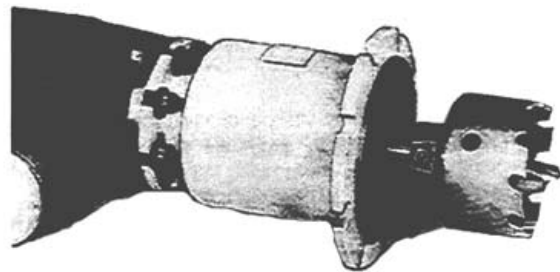

FIGURE 44
5. Assemble shell-cutter and cutter hub. Insert the shank of pilot-drill into the socket in the boring bar. Slide cutter hub and shell cutter over the end of the boring bar. Align holes in the cutter hub, boring bar and pilot drill and attach to boring bar with hub retaining bolt. **Figure 44.** Coat shell cutter and pilot drill thoroughly with MUELLER cutting grease.